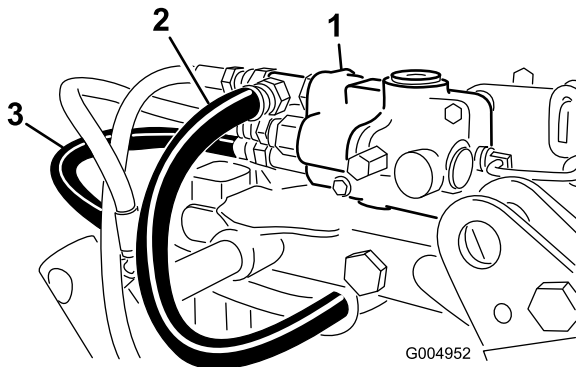

Figure 91
- 35. Route and connect the hydraulic pressure and tank hoses to the valve (Figure 91).